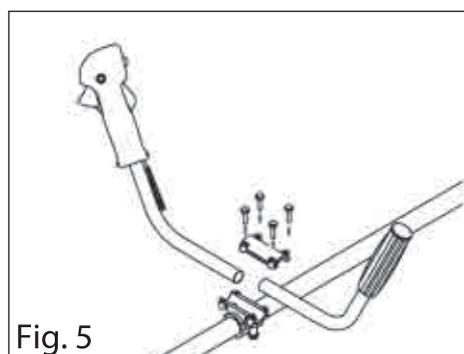

Fig. 5
- Install the handle into the mount (see fig. 5). The handle can be moved along the shaft. In this way, everybody can select the ideal comfortable working position. After selecting the ideal working position, tighten the screws. Fasten the control cable to the shaft using the supplied draw bands.